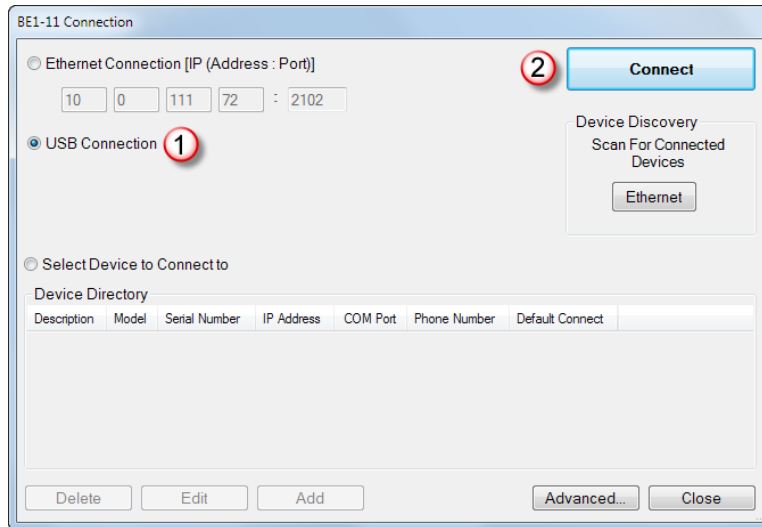

Figure 2-7. BE1-11 Connection Screen
The BE1-11 Connection screen shown in Figure 2-7 appears. Select USB Connection and then click the Connect button.
- Step 2: The BE1-11 Connection screen appears. See Figure 2-7. Select USB Connection and click Connect.